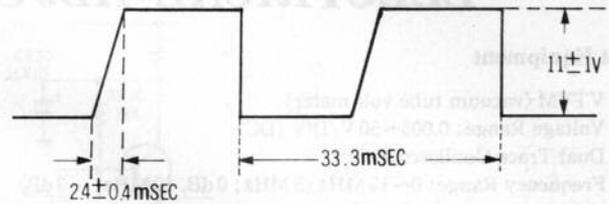

Fig. 2
3. Make sure that the waveform of TP25 becomes as shown in Fig. 2.